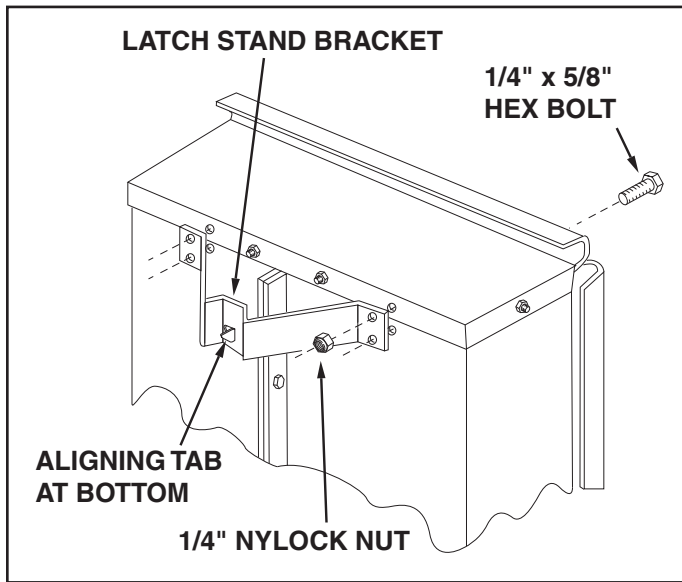

FIGURE 6
- Turn the latch stand bracket so that the aligning tab is at the rear (bottom) of the bracket. Assemble the latch stand bracket to the cart using four 1/4" x 5/8" hex bolts and 1/4" nylock nuts. **TIGHTEN.** See figure 6.